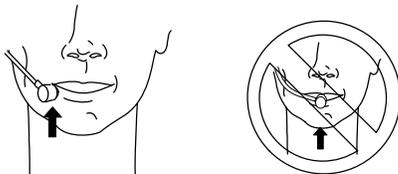

FIGURE 5. HEADSET MICROPHONE POSITION
- Position the microphone over the corner of your mouth, about 1/2 inch away. See Figure 5.